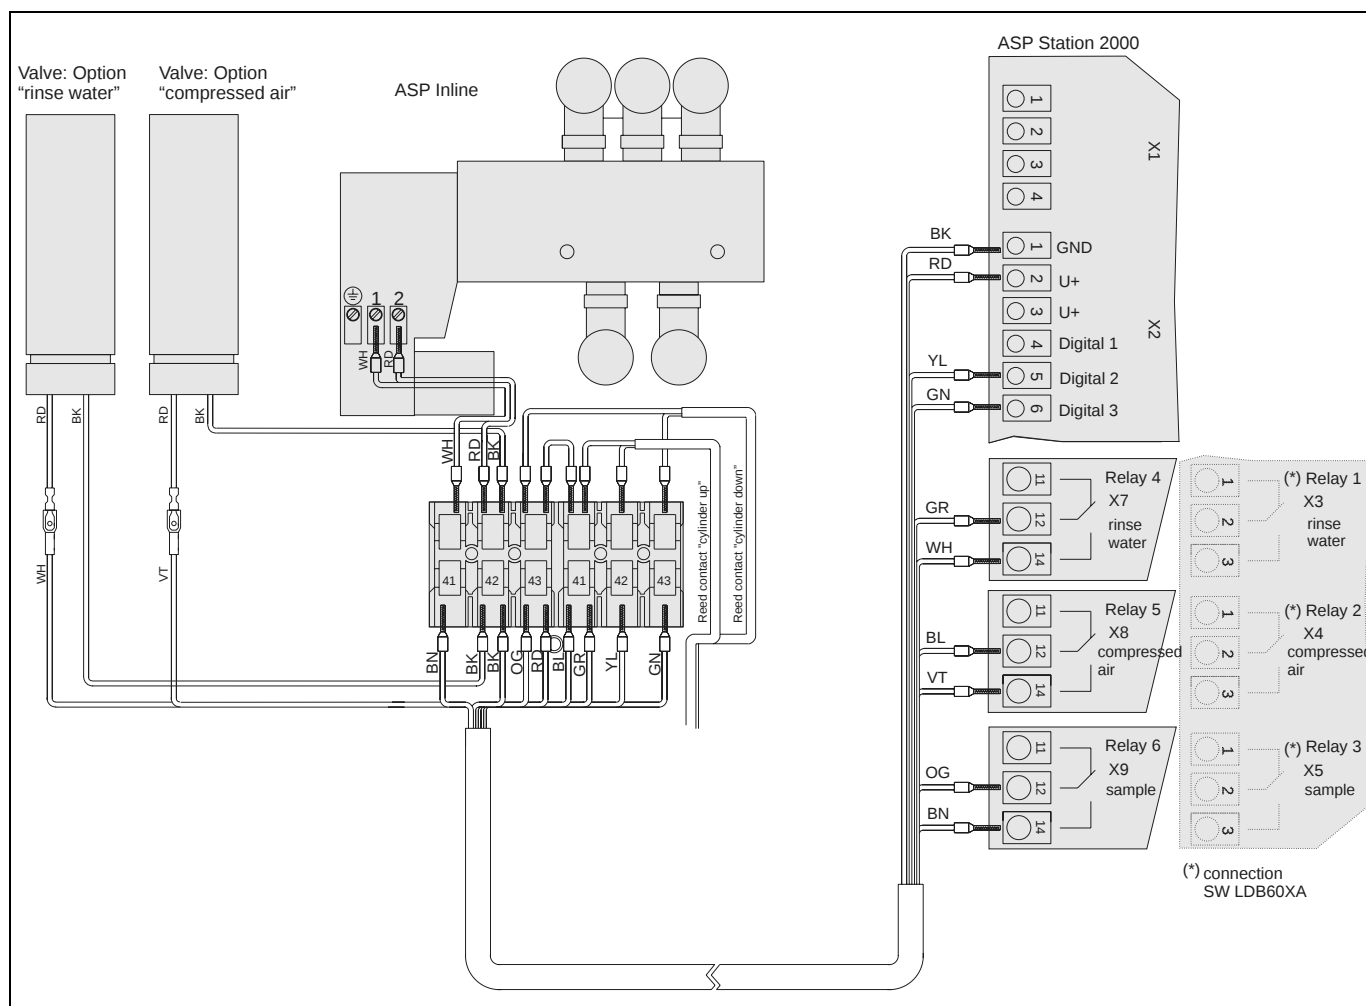
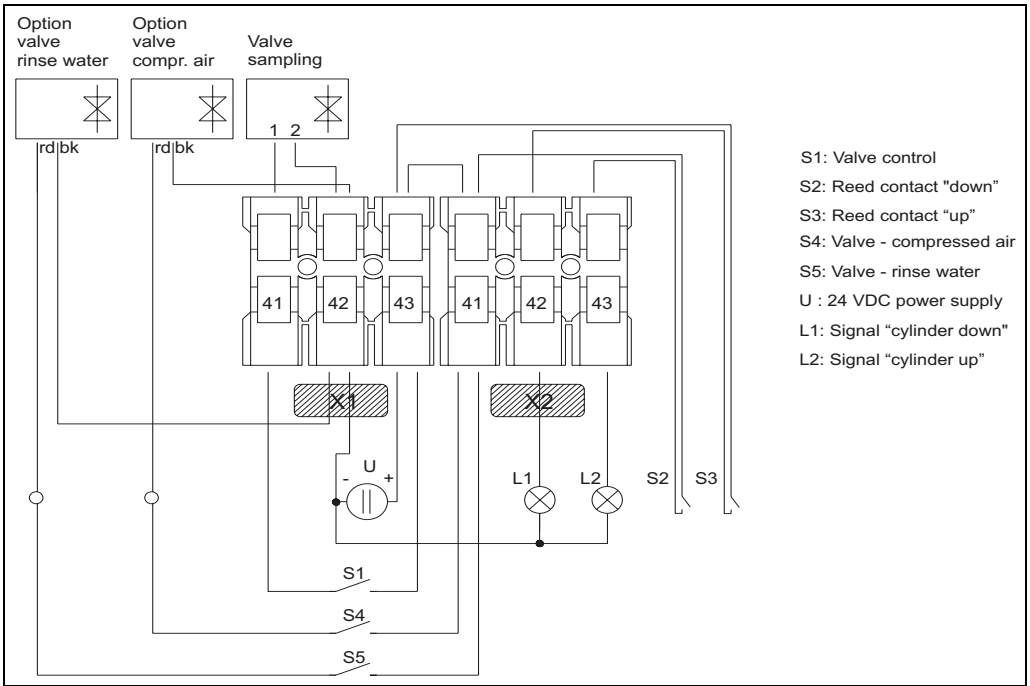

Fig. 7: Electrical connection of the ASP Inline sampler assembly with options "rinse water and compressed air" to the ASP Station 2000
Fig. 8: Electrical connection of the ASP Inline sampler assembly with options "rinse water and compressed air" to a PLC control unit
2. Guide the control cable through the M16 x 1.5 cable gland (bottom left, → Fig. 7).
3. Wire the terminals as shown in → Fig. 7 and → Fig. 8.